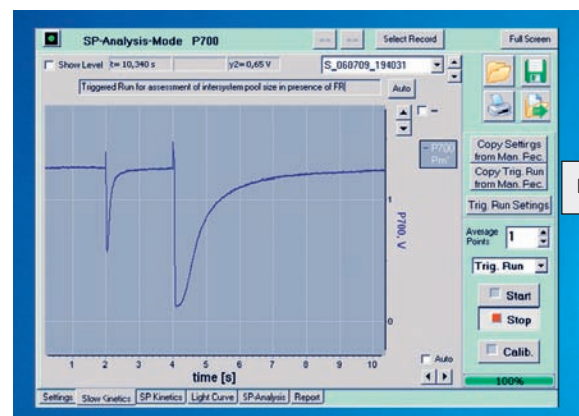

Fig. 10
▶ Slow Kinetics and Triggered Run (Fig. 10)
Fig.10 shows a Triggered Run of a P700 measurement for assessment of the intersystem pool size involving Single and Multiple Turnover flashes in the presence of far-red background light.